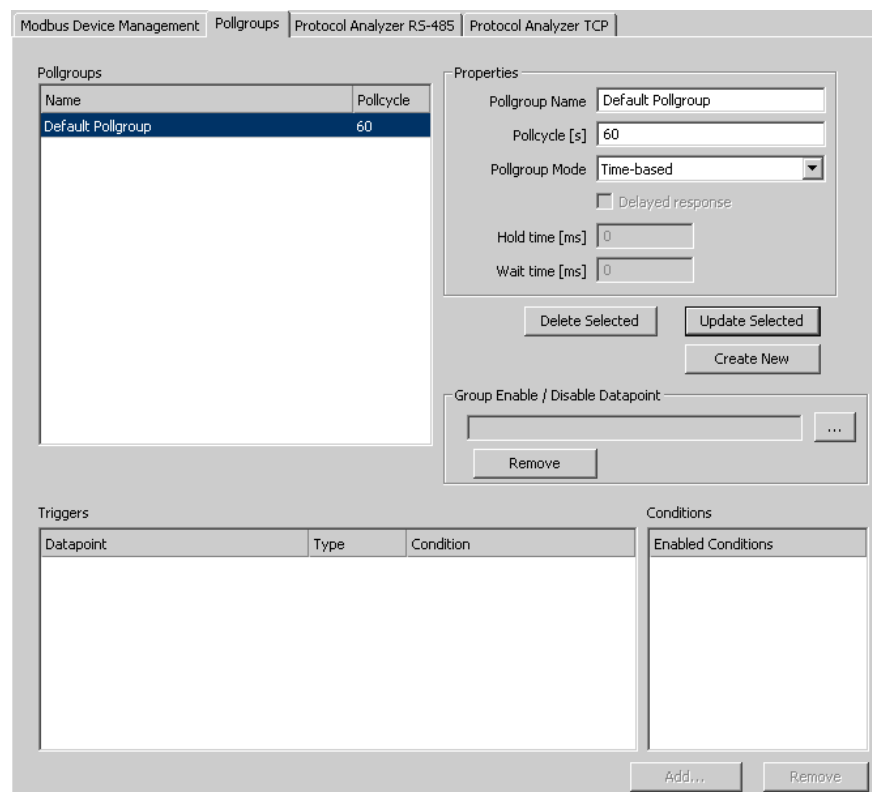

Figure 138: Pollgroup Management dialog.
2. Open the **Pollgroups** tab. This shows the dialog displayed in Figure 138.
2. In the **Modbus Management** dialog, open the **Pollgroups** tab. This displays the poll groups management tab displayed in Figure 138.